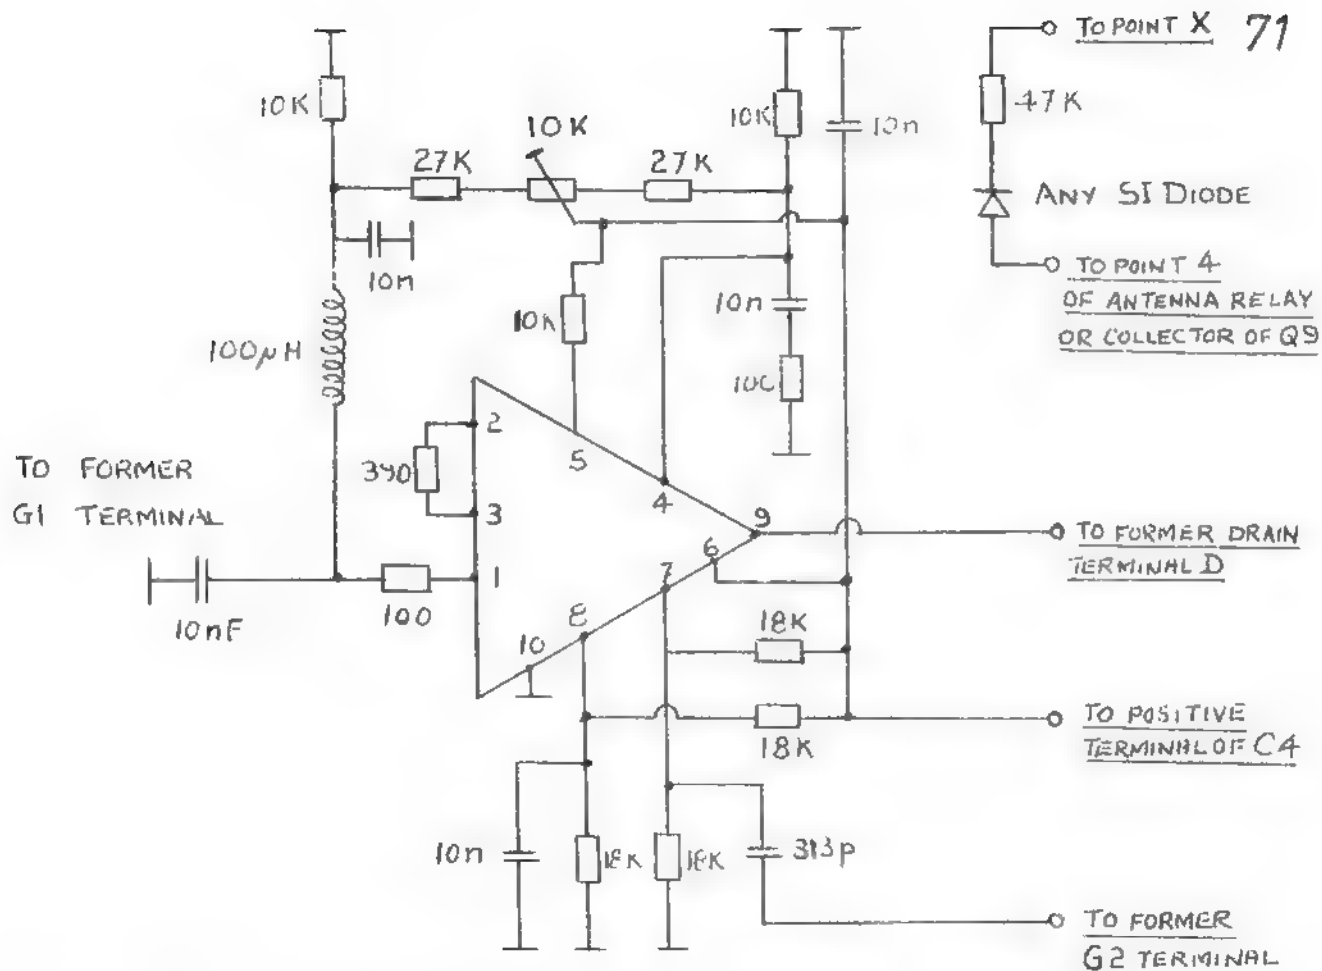

Fig 1 - Replacement of the Dual Gate FET Mixer by a Symmetrical IC Mixer.
One great problem of the HW7 receiver is its sensitivity to direct AM demodulation. This can be reduced by replacing the dual gate FET mixer with a double balanced IC mixer, which largely cancels out the detected AM. Fig 1 shows the IC mixer and its circuitry, which is placed on a small PCB (Board No. 1) and attached to the inner right side of the HW7 cabinet. The IC chosen can be operated asymmetrically or all three ports, so no balancing devices are needed for signal and oscillator input (as in a QST Jan 1974 circuit). Current consumption is also lower than with comparable devices such as the Plessey types SL640/641. The resistor value between pins 2 & 3 is a compromise between sensitivity and large-signal handling capabilities. An RF amplifier before the mixer has been found unnecessary.
Fig 1 shows a simple circuit using two 2N3053 transistors which will produce a couple of watts. With this circuit, do not hold the key down for more than 15 seconds at a time, to avoid over-heating the PA transistors. The wiring of the ex-TUNE/OPR switch (which was only a shorting switch for the key and therefore of little use) is shown in Fig 1.
The leading edge of the HW8 keyed RF waveform is very sharp and may be considered by some to be unacceptable. The transmitter is keyed by electronically switching the supply voltage to the buffer amplifier which drives the final PA. (Fig 1). The 2mfd capacitor discharges slowly when transistor Q11 is turned off, giving a slow trailing edge; but on turn-on, Q11 rapidly sucks charge out of this capacitor to give a fast leading edge. The remedy is to connect an additional 0.47mfd capacitor across the collector-base junction of Q11, thus slowing down the rise and decay of the collector voltage, due to the Miller effect. The capacitor is easily "back mounted" on the foil side of the printed circuit board.
10. Wire up the send/receive relay as shown in Fig 1. Replace the TX board screen, remove the dummy load and connect an antenna to the PA.